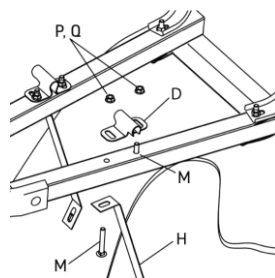

Fig. 6
12. Attach the axle bracket (D) to the bottom of the handle using an 8 x 75 mm bolt (M) pushed through the hole closest to the tray (Fig. 6).
13. Push a second bolt through the hole in the bottom of the tray brace (H) and then through the handle (using the hole closest to the wheel guard) and finally through the axle bracket (Fig. 6).